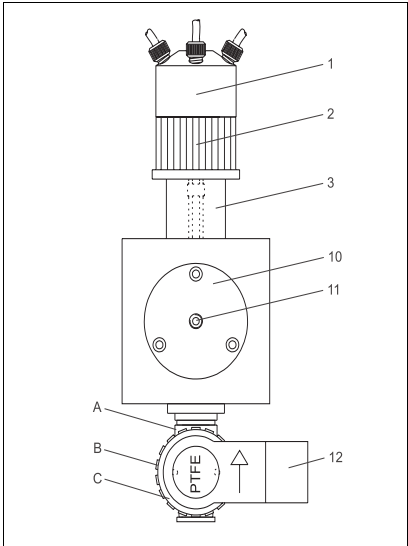

Fig. 43: Front view of the measuring cell
3. Release the GL cap (fig. 43, item **2**) from the dosing element (**1**).